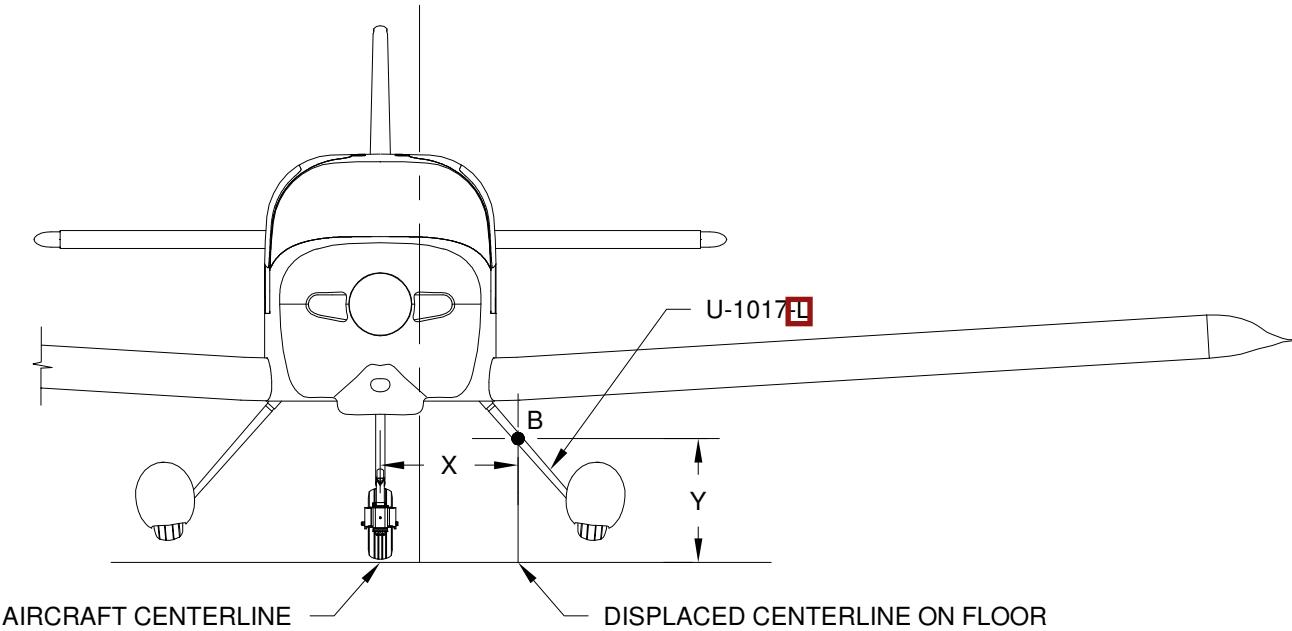

FIGURE 2: MEASURING FROM AIRCRAFT CENTERLINE AND FLOOR
Step 2: Drop plumb bobs from the aircraft centerline to the floor and snap a line on the floor between these two points. Create a displaced centerline (parallel to the real centerline) on the floor beneath an arbitrary point "A" on the horizontal part of the WD-1007-L. Step. It could be established elsewhere but the step is very convenient spot. Drop a plumb bob from point "A" to the floor and measure the span wise distance "X" from below point "A" to the center of the fuselage. Snap a line from below the step forward past the gear leg fairing the distance "X" from and parallel to the aircraft centerline. This is the displaced centerline. Drop a plumb bob from the leading edge of the U-1017-L Gear Leg Fairing to the displaced centerline as shown in Figure 2. This locates point "B" on the leading edge of the fairing.